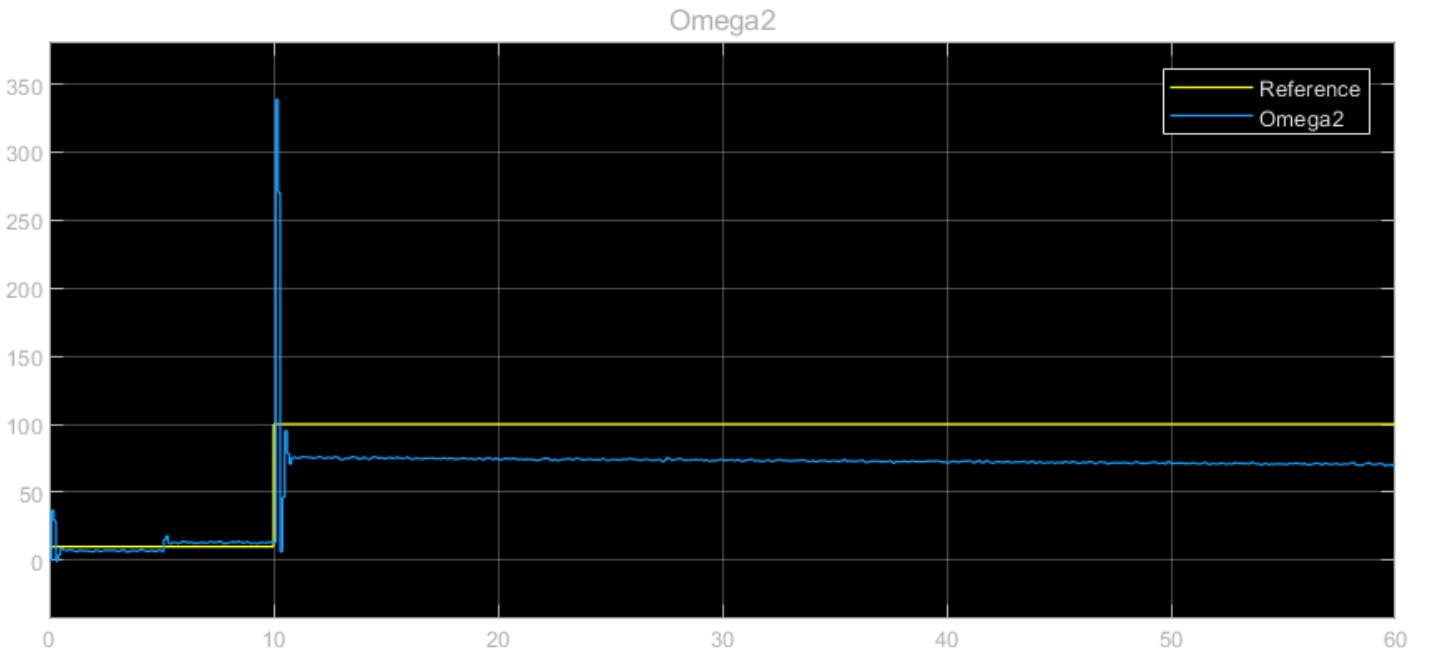

Figure 2: Reference Gain Simulink Model
- The reference tracking for ω_2 is shown in figure 2. An input disturbance of 1V is added at 5sec.